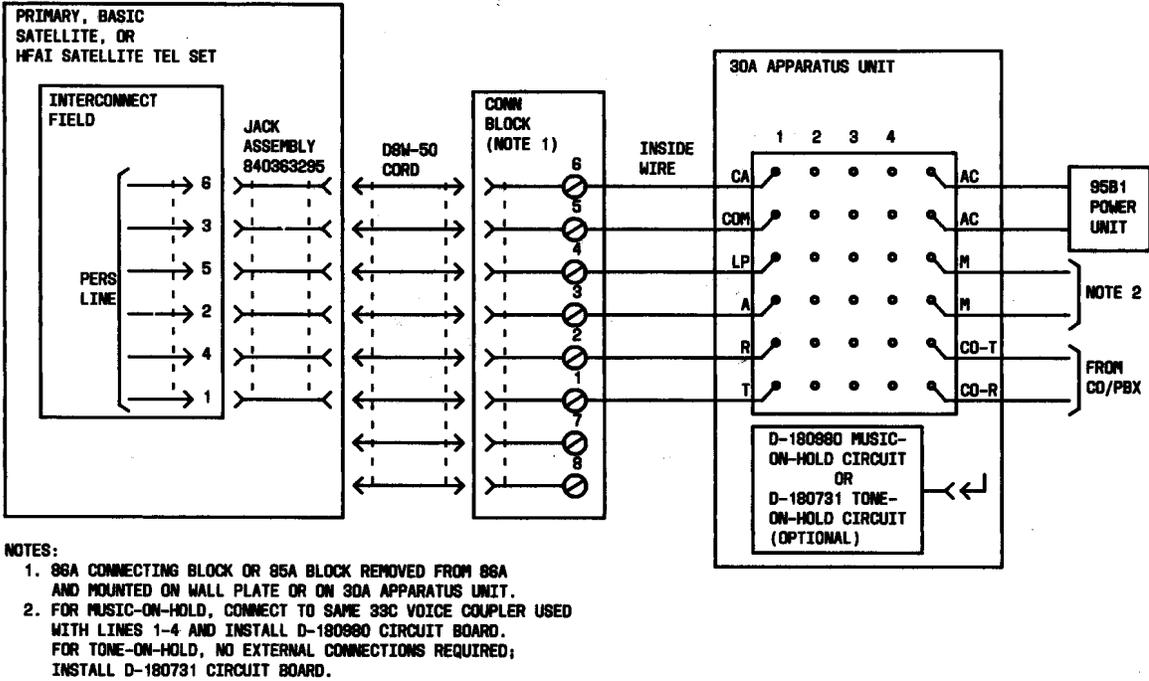

Fig. 43—Personal Line Connections for Primary, Basic Satellite, or HFAl Set Using 30A (MD) Apparatus Unit
(1) After the 30AM apparatus unit is connected to the 86A block associated with the BIS satellite set, no further installation is required. The D8W cord which connects power to the speakerphone circuit also provides the necessary personal line connections.
(2) Be sure that the personal line is connected to terminals 1 through 6 and the 2012B transformer to terminals 7 and 8.
*In existing installations, the 30A (MD) apparatus unit may be used for personal line; it is permissible to reuse this unit in other installations. Connections are shown in Fig. 43 and 44.*
**3.70** Connections for personal line on the 30A (MD) apparatus unit are shown in Fig. 43 and 44.